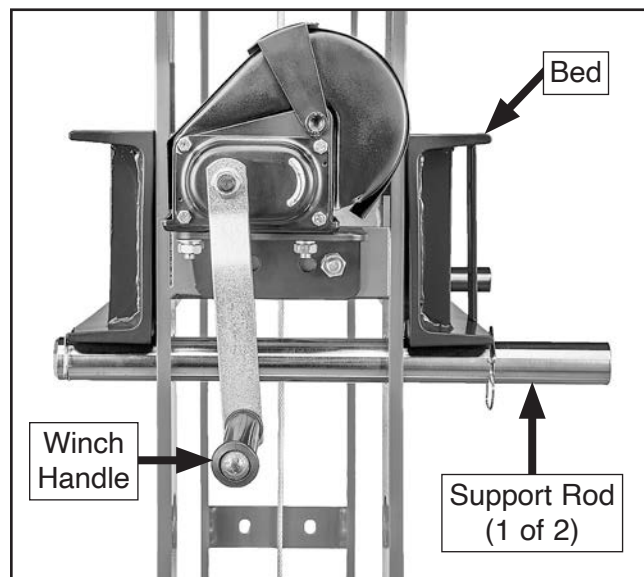

Figure 9. Bed lowered on support rods.
11. Rotate winch handle counterclockwise to lower bed between retaining rings on support rods (see **Figure 9**).